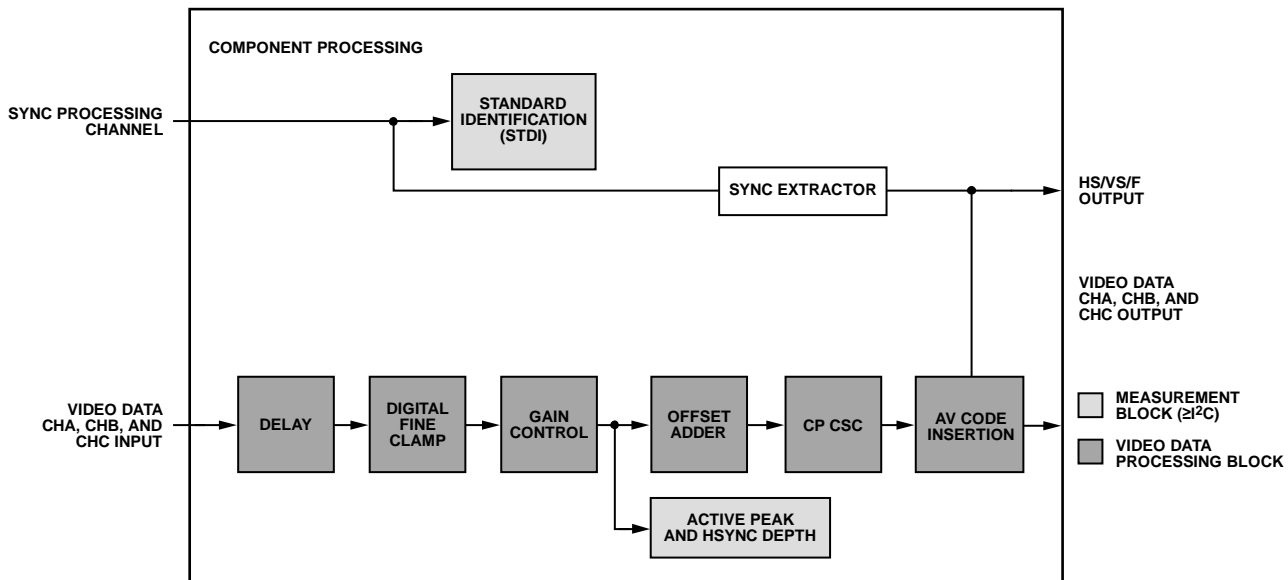

Figure 36. Component Processor Block Diagram
A simplified block diagram of the component processor (CP) on the ADV7613 is shown in Figure 36. Data is supplied to the CP from the data preprocessor (DPP). The CP circuitry is activated under the control of PRIM_MODE[3:0] and VID_STD[5:0].